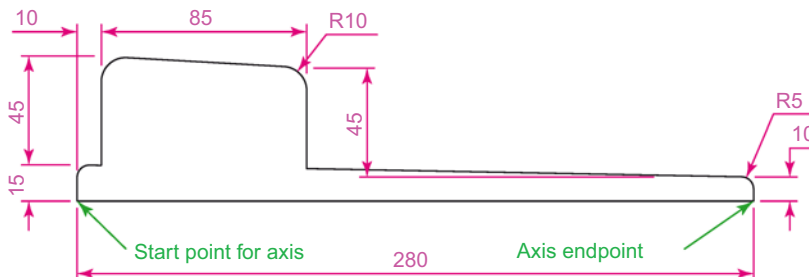

Fig. 9.17 First example – Revolve – the closed pline
1. Construct the closed polyline Fig. 9.17.